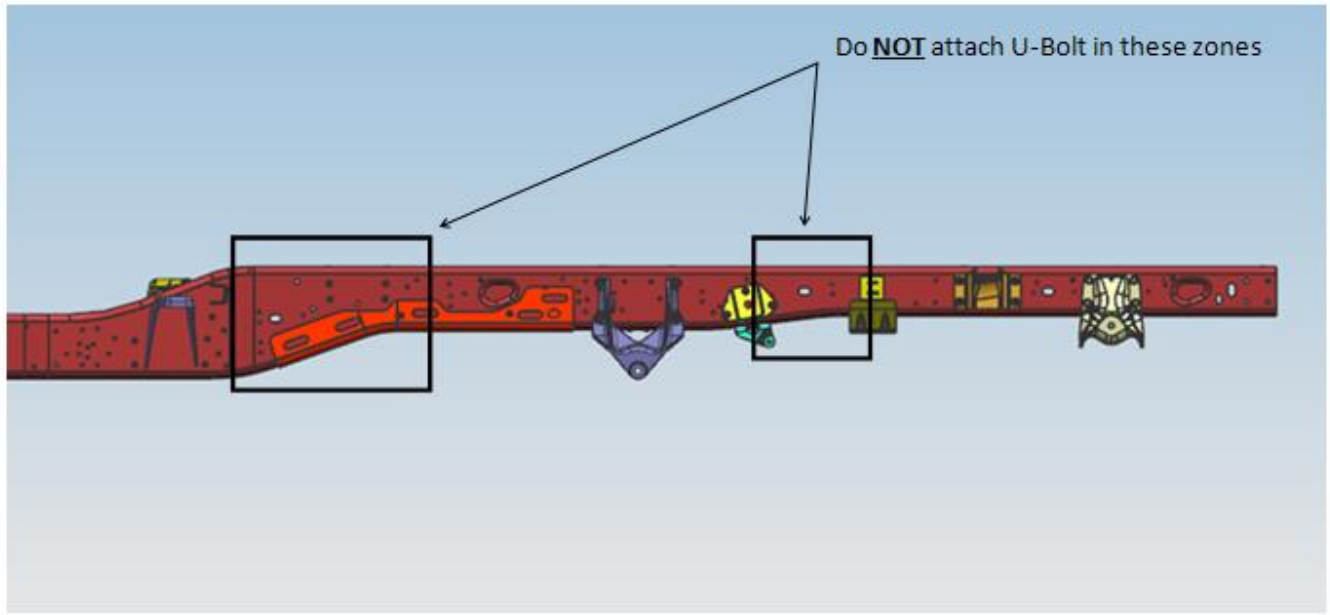

Figure 3
**Note:** do not use U bolts on any other location other than flat sections of the rail. If the rail is changing depth in the area necessary to attach, always use a shear plate. Critical zones to avoid U-bolt attachment are show in **Figure 3 & 4**.